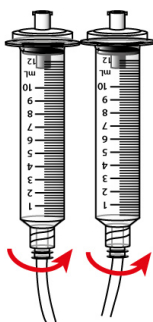

Figure 20: Screw the adapters tight into the reservoirs.
- (a) Verify the connection between the reservoirs and tubing by screwing the adapters tightly into the reservoirs (Figure 20).